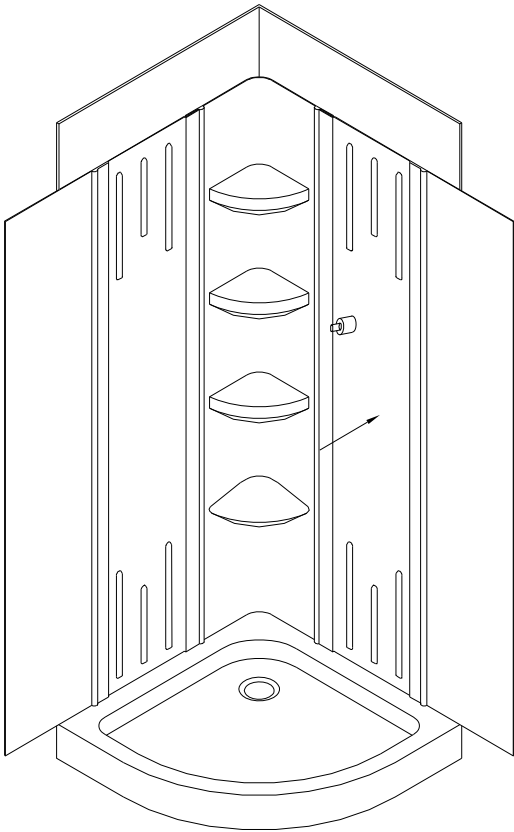

Fig 9
8. Place the side panel in position and apply pressure to the complete surface top to bottom to ensure good overall contact. DO NOT trim. See Fig 9 for details.